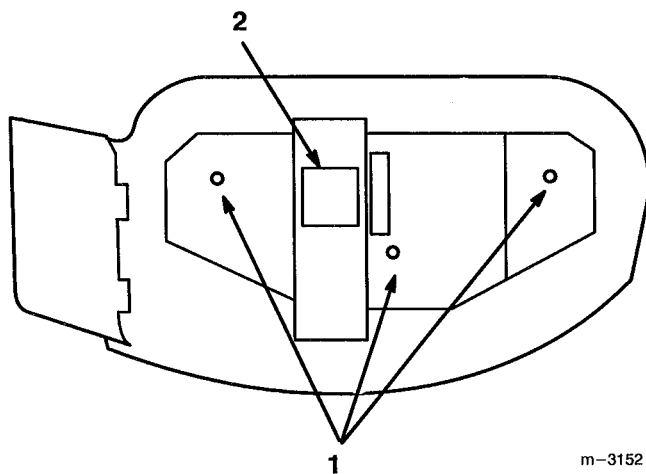

Figure 18
2. Grease the fittings on the three spindle bearings and the idler arm (Fig. 18).
3. Remove plug on gearbox and check the level of lubrication in the gearbox. If level is low, add SAE EP-90 wt. gear oil until level is up to horizontal (input) shaft of gearbox. (Fig. 18).